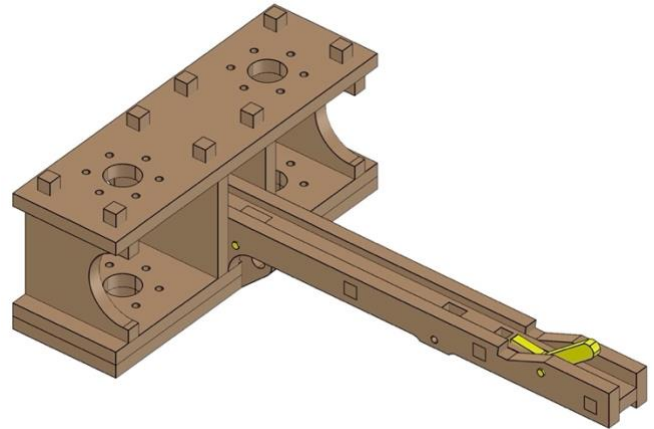

Fig. 22
- *Fig. 22* shows the completed process.